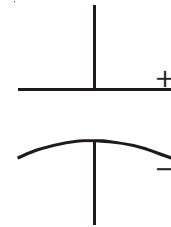

Fig. 1.18 Capacitor
2. The Capacitors used in electronic circuits will have Paper or Ceramic or an electrolyte as the dielectric medium. The Ceramic capacitors will be of the order micro-Farads ($\mu F = 10^{-6}$ Farads) or pico-Farads ($pF = 10^{-12}$ Farads) and will have a color coding painted on them to indicate their values. The electrolytic capacitors will have polarities marked and they have to be connected to the same polarities of the supply else the capacitor will burst. The symbol for the electrolytic capacitor is given in Fig. 1.18.